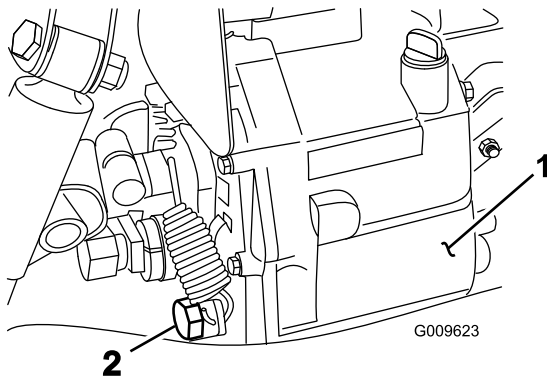

Figure 70
4. Remove the drain plug from the side of the reservoir, and let the hydraulic fluid flow into a drain pan (Figure 70).